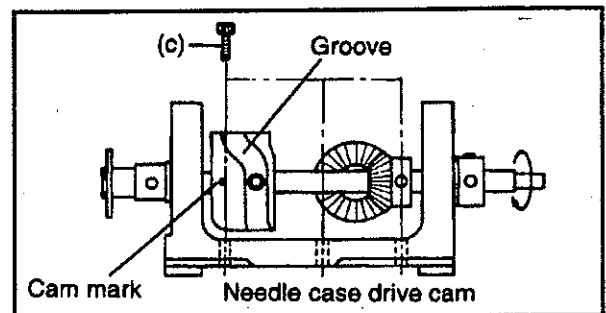

FIG.4
(5) Rotate the shaft to bring the mark of the cam to the bottom side. Insert the guide rail collar into the cam groove. Secure the guide rail with three retaining screws (c) (Fig.4).